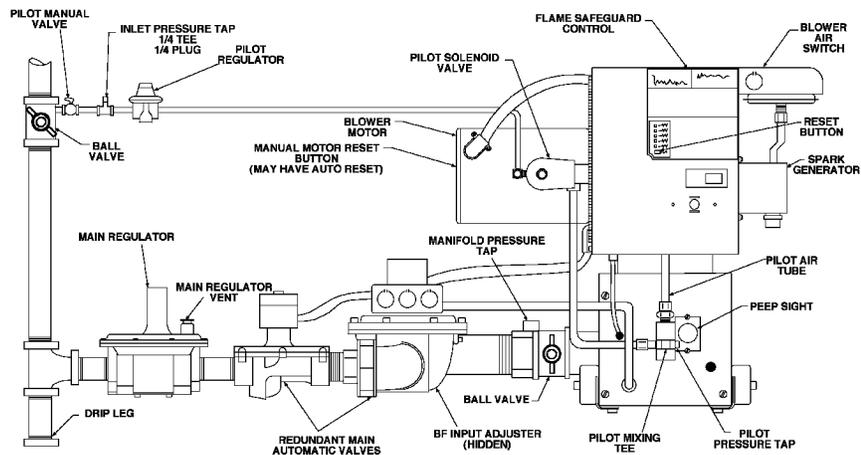

Figure 11: Piping Connections
- Piping follows normal practices and should be connected to the burner in the manner shown in Figure 11. If the piping must be rearranged because of space limitations be sure to carry out the sequence of components illustrated. While the pilot regulator can be mounted in any position, the main regulator should be mounted upright and in a horizontal run of pipe.